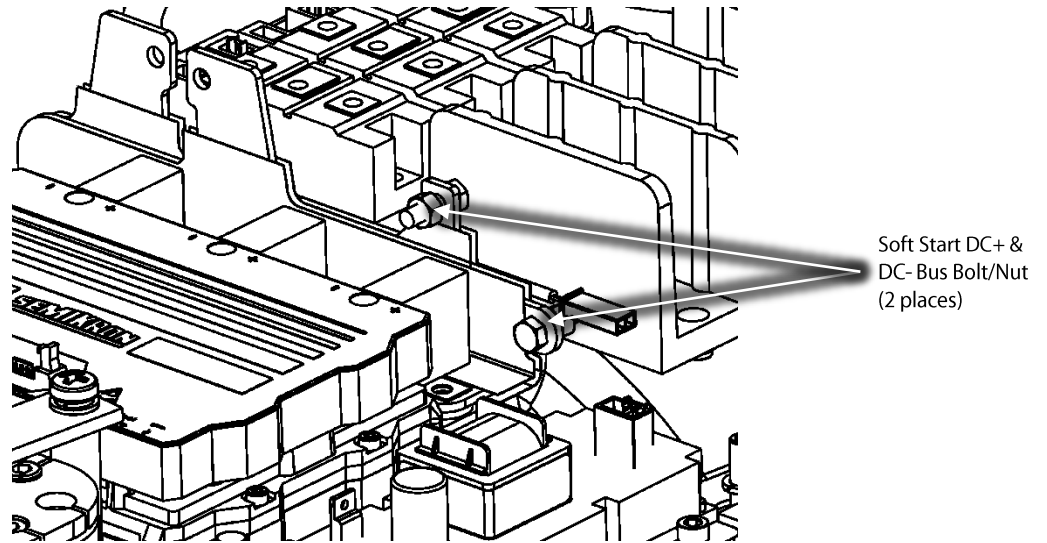

Figure 10 – DC+ and DC- Soft Start Harness Removal
20. Disconnect the DC+ and DC- of the Soft Start harness from the DC bus assembly noting the orientation. Refer to Figure 10 (DC+ and DC- Soft Start Harness Removal).
15. Reconnect the DC+ and DC- of the Soft Start harness from the DC bus assembly noting the orientation and torque to 10 Nm (7 ft.lb.). Refer to Figure 10 (DC+ and DC- Soft Start Harness Removal).